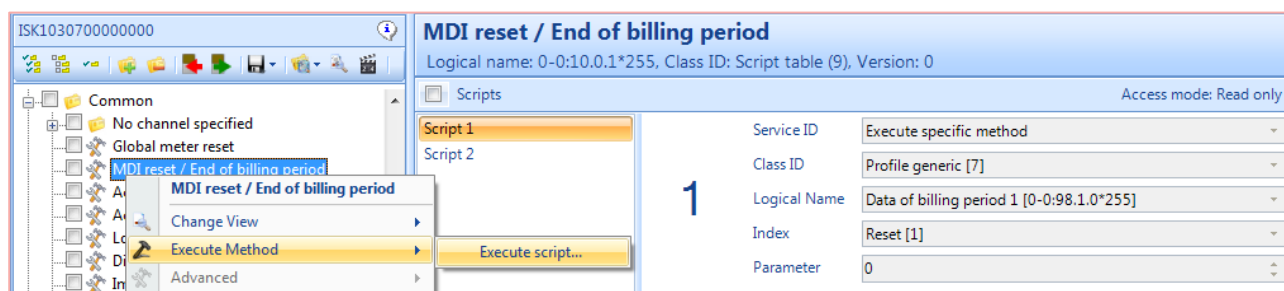

Figure 96: Manually executing MDI reset / End of billing period
- *Manually* – by executing Script 1 or Script 2 (of this object) using one of available communication channels (see Figure 96) or